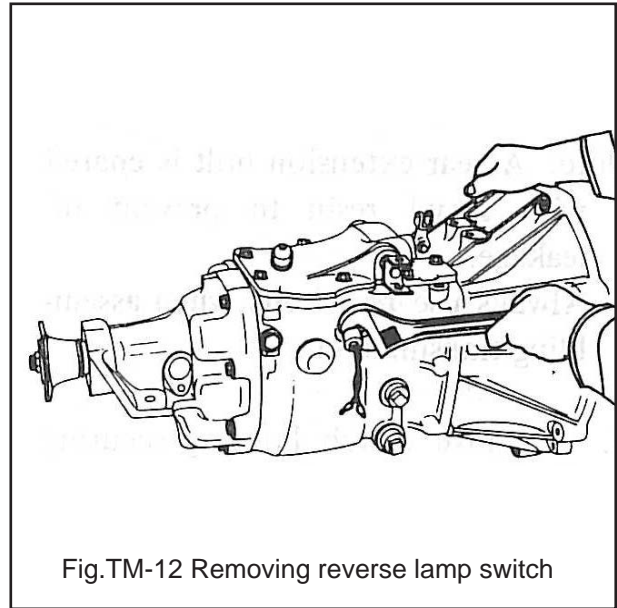

Fig.TM-12 Removing reverse lamp switch
4. Detach reverse lamp switch from transmission case. See Figure TM-12.